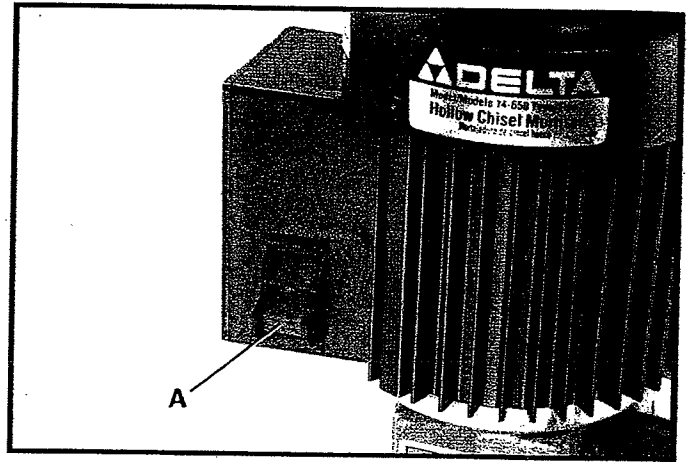

Fig. 26
The switch (A) Fig. 26, is located on the side of the motor. To start the mortiser, move the switch (A) to the up position. To turn the mortiser "OFF" move the switch to the down position.